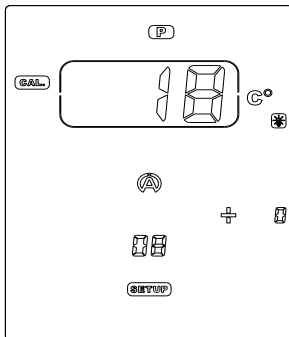

Figure 23
- 2) Connect the sensor of temperature (figure 23).